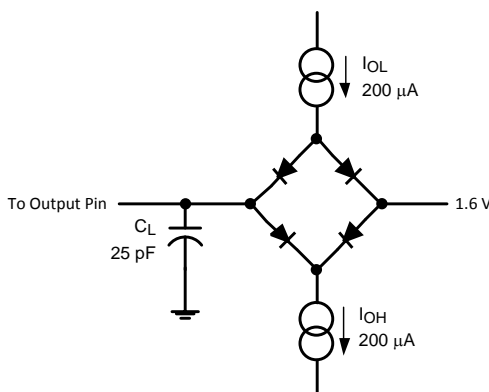

Figure 2. Timing Test Circuit
- (1) Measured with the timing test circuit shown in Figure 2 and defined as the time taken by the output signal to cross 1.0V .
- (2) Measured with the timing test circuit shown in Figure 2 and defined as the time taken by the output signal to cross 1.0V or 2.0V .
- (3) t_{DIS} is derived from the time taken by the outputs to change by 0.5V with the timing test circuit shown in Figure 2. The measured number is then adjusted to remove the effects of charging or discharging the output capacitance. This means that t_{DIS} is the true bus relinquish time, independent of the bus loading.